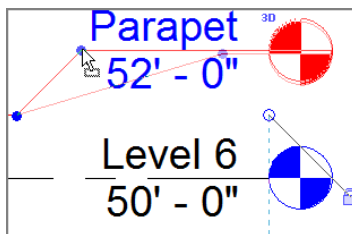

FIGURE 3.15: Making the final adjustments to the level
4. The line of the level is still in the way. The two blue grips are still available: pick and drag the horizontal line out of the way of the Parapet text, as shown in Figure 3.15.